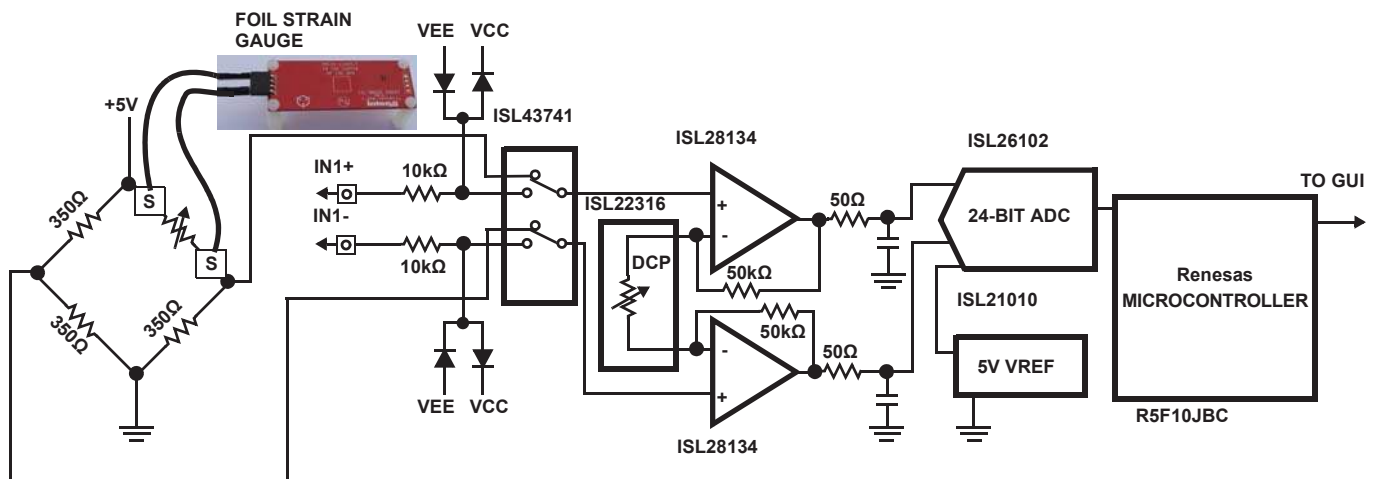
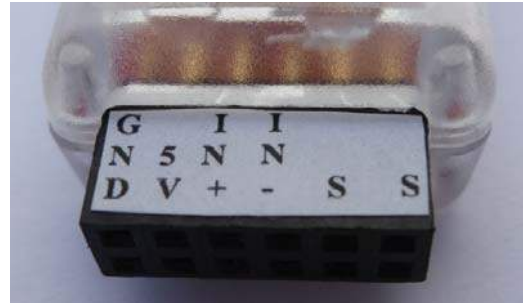
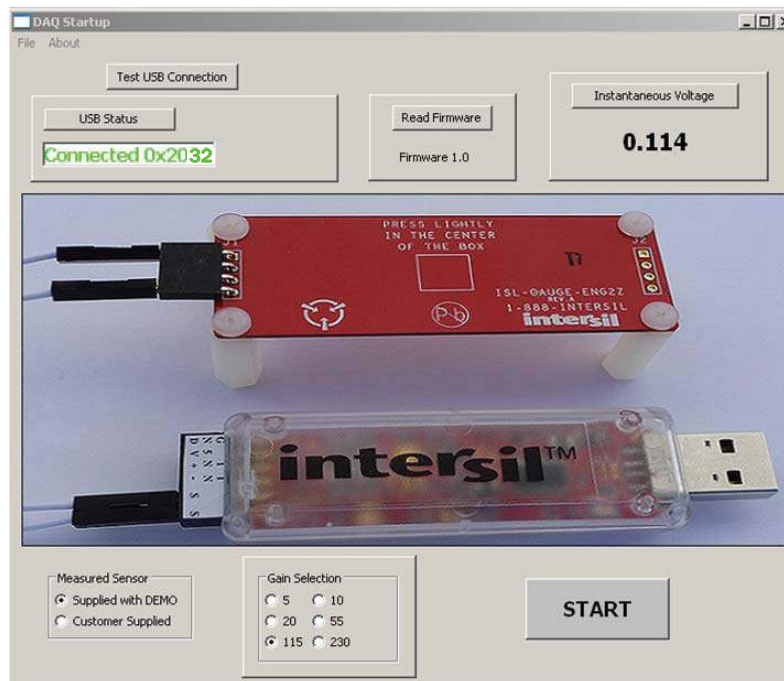
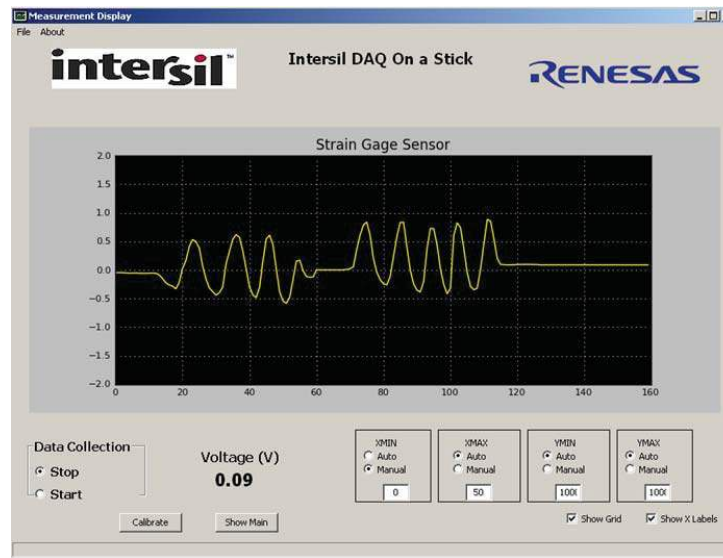

FIGURE 2. SIMPLIFIED STRAIN GAUGE SCHEMATIC
FIGURE 4. SENSOR CONNECTOR
FIGURE 5. GUI START-UP SCREEN
FIGURE 6. GUI MEASUREMENT SCREEN
Figure 2 shows a simplified schematic of the Strain Gauge design. The design uses Intersil’s ISL28134 chopper amplifier, ISL22316 Digitally Controlled Potentiometer (DCP), ISL43741 differential mux, ISL21010 4.096 voltage reference, the ISL26102 24-bit delta sigma converter and Renesas R5F10JBC microcontroller.
The green LED on the DAQ on a Stick board should be on at this time. When the software starts, the DAQ Startup screen shown in Figure 5 will appear. With the DAQ on a Stick connected, the USB Status indicator will display “Connected 0x2032”. The assigned HID code for this application is 0x2032. This is verification the software is communicating with the board.
From the DAQ Start-up Screen (Figure 5), the user can click on the Instantaneous Voltage button to get a single voltage reading, select the sensor input they want to measure and adjust the gain of the amplifier, or click the Start button to go to the Measurement Display screen, as shown in Figure 6. At this point the green LED on the board will go off.
The ISLRE-BDGSTKEV2Z reference design gives the user the option to measure the strain on a foil gauge (supplied with the evaluation board) or connect their own sensor and monitor the voltage reading on the GUI screen. The user will select the “Sensor Supplied with the Demo” or “Customer Supplied” sensor by clicking the appropriate radial button at the bottom of Figure 5. The foil gauge is the default value in the GUI with a gain
of 115V/V. Figure 4 shows the external connector inputs, which are used to connect the sensor to the circuit shown in Figure 2.
2. Connect the opposite end of the wires to the far edges of the foil gauge board. Reference Figure 5.
1. To connect a user supplied sensor, plug the wires into the IN+ and IN- ports shown in Figure 4, then select the “Customer Supplied” option, as shown in Figure 5. This will cause the ISL43741 differential mux to switch the inputs. Once the customer supplied option is selected, the user will have the option of changing the amplifiers’ gain for the best measurement.
Figure 6 shows the Measurement Display screen. From this screen, the user can stop and start data collection, adjust the minimum and maximum X & Y axis and go back to the set-up screen by clicking on the Show Main button. A calibrate button is provided to zero out the voltage reading when the board is not under strain. This helps to give an accurate reading from time zero, and is required because the board does not always return to the same deflection point after a strain is applied to the board.